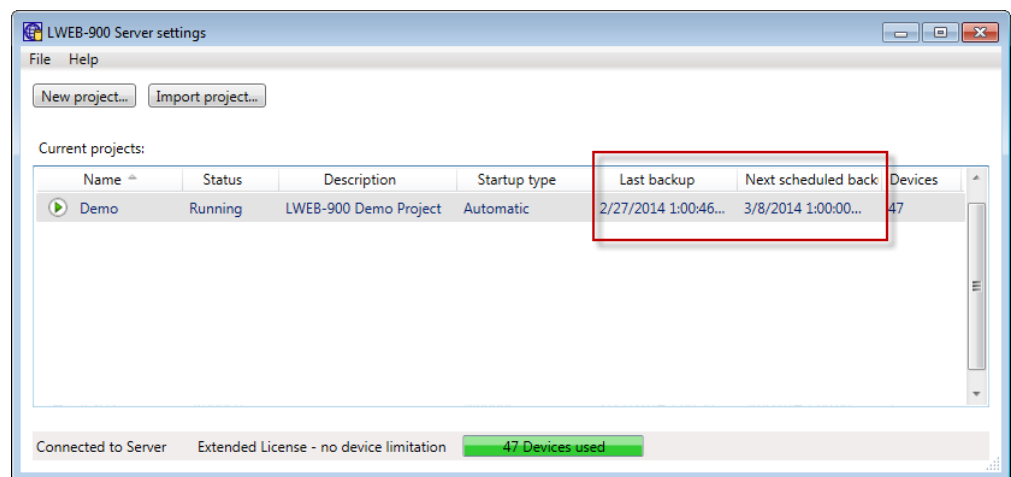

Figure 39: Last Backup and Next Scheduled Backup
- **Interval:** Definition of the backup schedule. Note, that the times of the last and the next scheduled backup are displayed in the project list (see Figure 39).